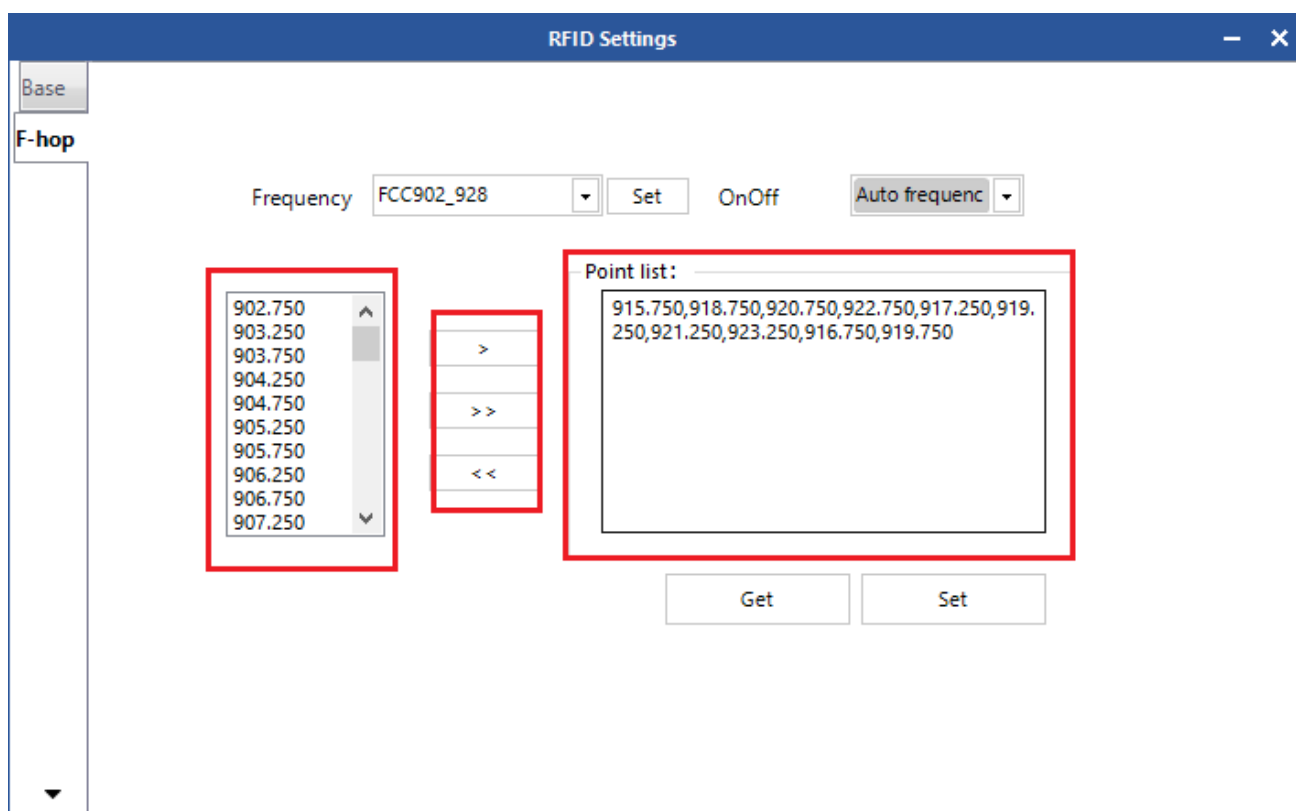

Figure 4.7.5.4 Frequency Selection
**Notes:** When doing this setting, the purpose of the automatic operations is to avoid the external signal interference. Normally it is defaulted to be automatically(as shown in the spinner of Figure 4.7.5.3).